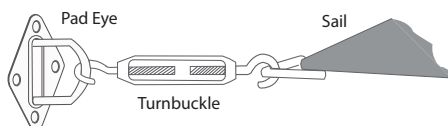

Fig. 9
A. Your Coolhaven Shade Sail Kit includes the fixing accessories needed for installation (Fig. 9).